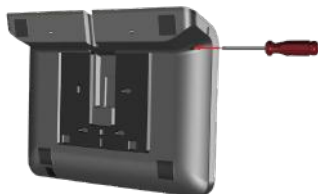

Figure 4: Foot Release
2. Remove the foot from the NPX by inserting a small Philips screwdriver or similar tool, with a maximum 3/16" (4.7mm) diameter, into the hole as shown in Figure 4.